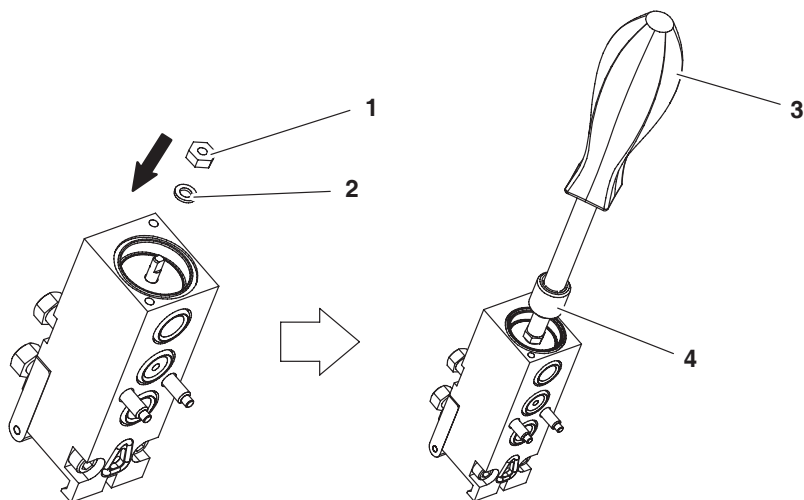

Figure 22 Using the stem wrench tool to remove the 5-40 nut and lock washer
10. See Figure 22. Install the lock washer (2).
11. Apply one drop of Loctite 272 to the top of the stem and thread the 5-40 nut (1) onto the stem by hand.
12. Using a $\frac{1}{4}$ -in. standard nut driver (3) with a standard $\frac{1}{4}$ -in. socket (4), press down on the 5-40 nut, pushing the piston seal into its bore. While holding the downward pressure, turn the nut driver clockwise until the 5-40 nut is snug against the upper piston washer.